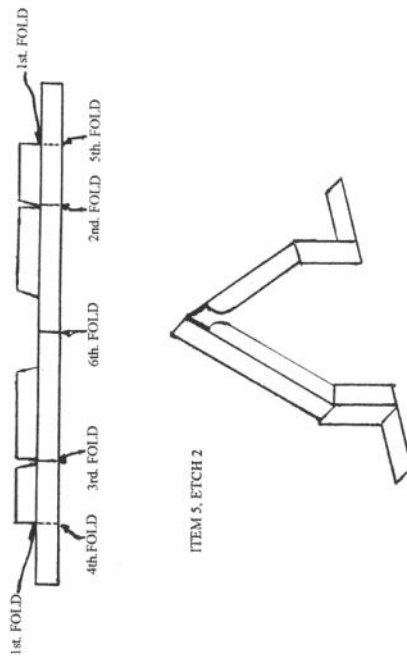

Fig. 17. ANGLE 'V' HANGER, DIAG. A30 ONLY
s. Diagram A30 ONLY: Fold item 5, etch 2, as shown in Fig. 17 and fix to the driver end centre brake cross shaft and the underframe in the position as shown in Figs. 6. & 6a.